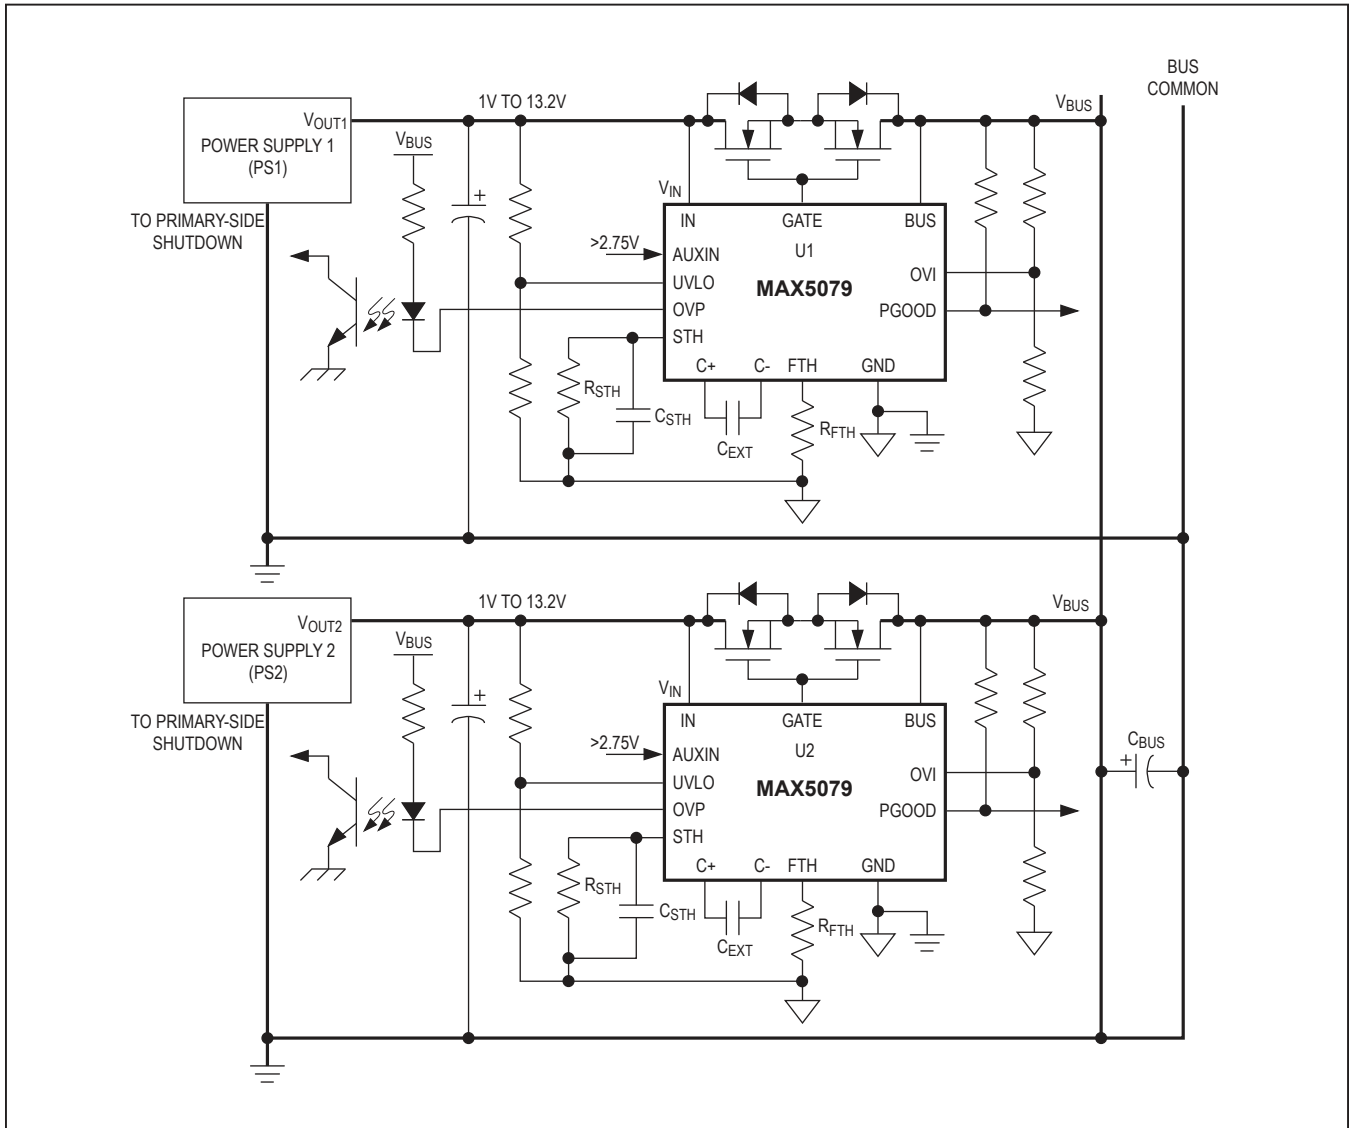

Figure 2. Parallel Supplies with Back-to-Back MOSFET
- Use additional n-channel MOSFETs in series with N1, N2, and N3 in the reverse direction to isolate the power supplies from a shorted bus (Figure 2). When power is turned on with a shorted bus,  $V_{IN}$  (U1, U2, U3) increases and  $V_{UVLO}$  rises above the UVLO threshold. The MAX5079's GATE outputs start charging the back-to-back ORing MOSFET gates. The short-circuit condition at BUS collapses  $V_{IN}$  (U1),  $V_{IN}$  (U2), and  $V_{IN}$  (U3) sending the MAX5079s into undervoltage lockout. This turns off the MAX5079s entirely, including discharging of the charge-pump storage capacitors. The IN voltages come back up again crossing UVLO (UVLO has 60mV hysteresis). A new cycle starts and the time required to charge the chargepump capacitor and the turn-on time of the device serves as a dead time. However, the dead time may not be enough to reduce the dissipation in the MOSFETs to an acceptable level. We advise in keeping the short-circuit current low and providing hiccup current-limit protection to the power supplies (PS1, PS2, and PS3).